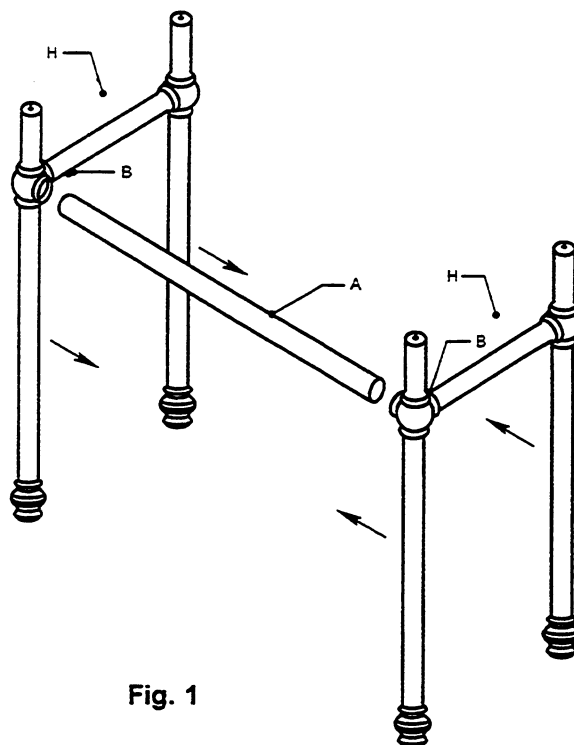

Fig. 1
- Step 1. Insert cross tube "A" into the two tees of the two "H" assemblies (See Fig 1).
- Step 2. Tighten the two set screws "B" with the hex key provided (See Fig. 1).